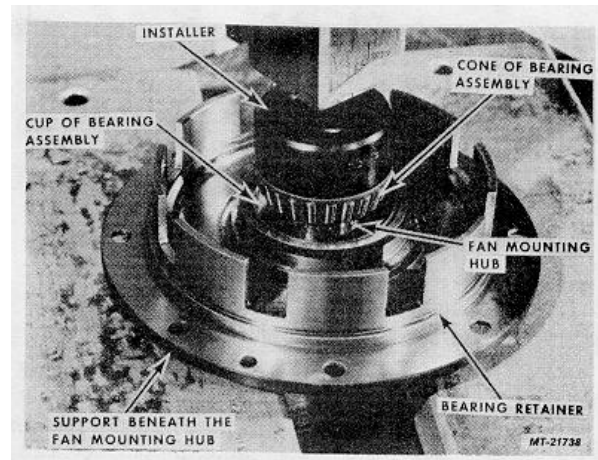

Fig. 46
9. Support beneath Fan Mounting Hub. Place the cone of Bearing Assembly on the Fan Mounting Hub and using Installer SE-2782-10 press down until Installer bottoms, Fig. 46